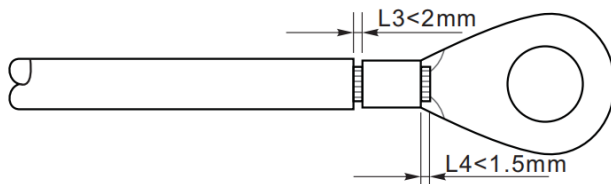

Figure 5-3 Grounding connection instruction (2)
**Step 2:** Insert the exposed core wires into the OT terminal and crimp them by using a crimping tool, as shown as figure 5.3. Recommend using OT terminal: OT-M6, Cable:  $\geq 6\text{mm}^2$